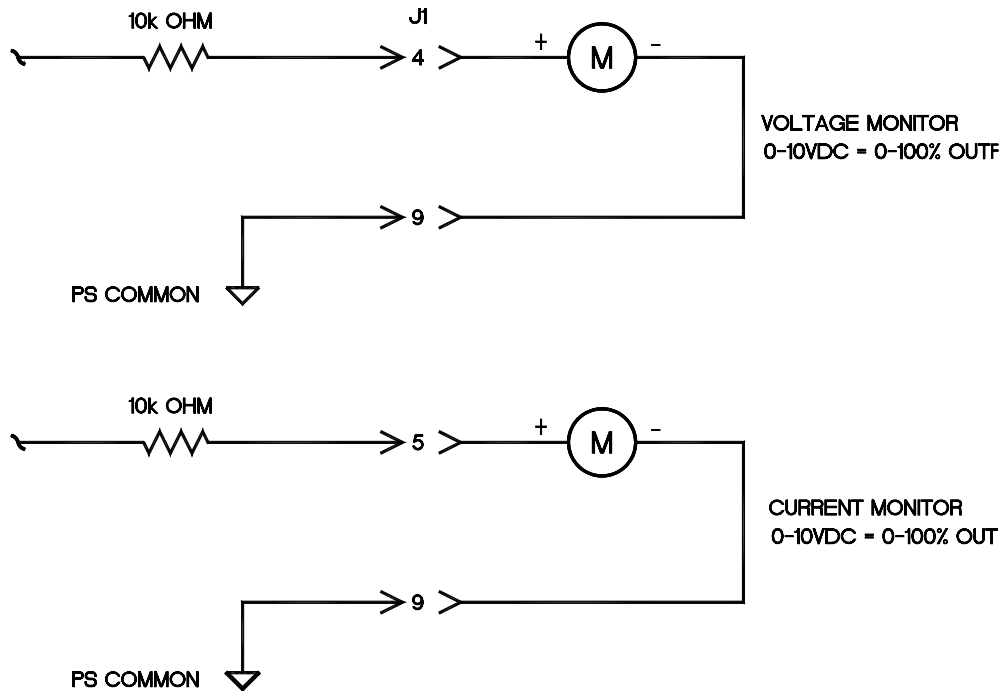

Figure 3.3 SMS Remote Monitoring
**Remote Monitoring:** Test points are made available for monitoring the voltage and current output. The test points are always positive regardless of the output polarity, where zero (0) to 10 (10) volts equals 0-100% of the output. See Figure 3.3 and 3.6 for test point wiring.